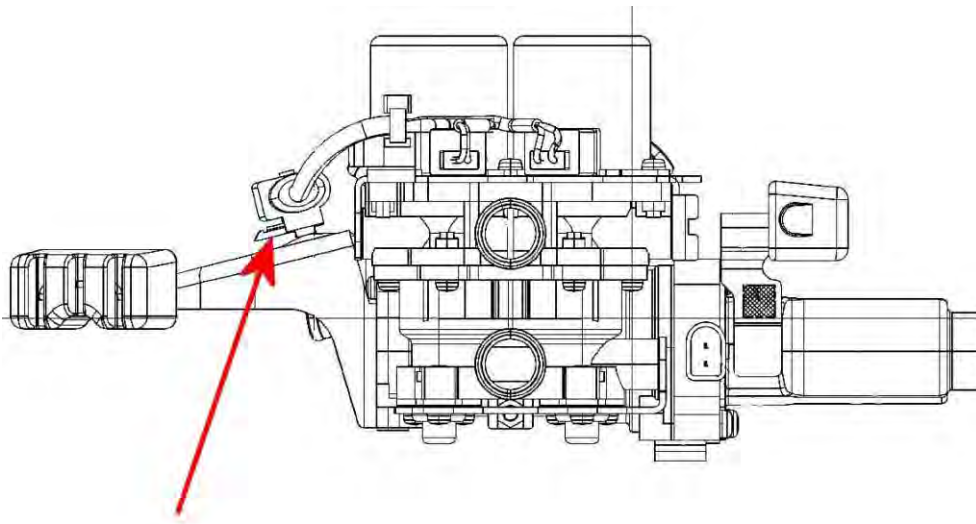

Figure 5
4. Depress the securing tab and slide the Water Pump / Valve unit electrical connector from its locating position - *Figure 5.*